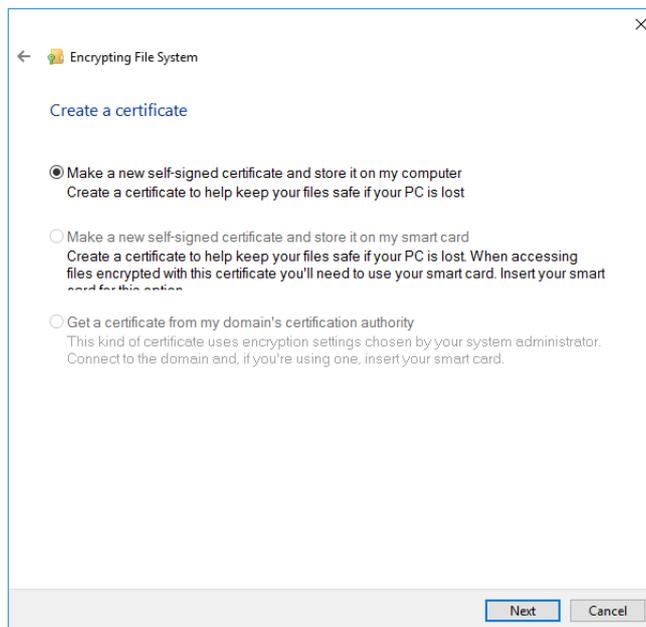

Figure 2-26. Selecting a self-signed certificate
5. Select the first radio button **Make a self-signed certificate and store it on my computer** and click **Next**, see Figure 2-26.